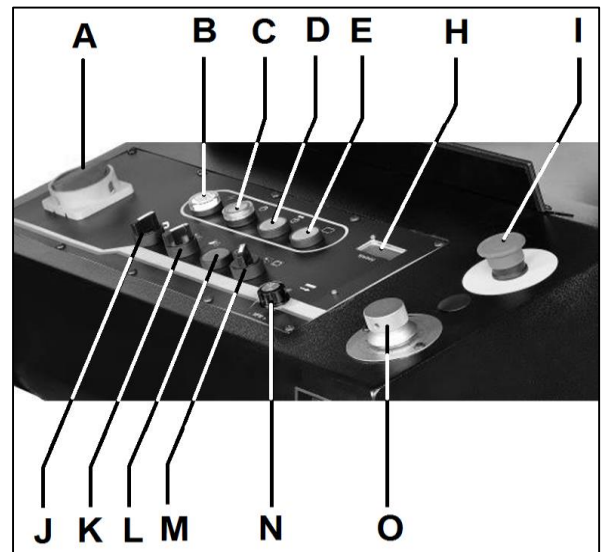

Figure 7-1: Machine Controls
- If the blade gets stuck in the cut, press the emergency stop button (I, Fig 7-1) immediately to switch off the machine. Open the vise slowly, remove the part and check that the
Rotate knob (N, Fig 7-1) to set the blade speed.
Connect the machine to power source. Turn the main switch (A, Fig 7-1) on. The power lamp (B) will be lit.
1. Press button (C) to start the hydraulic pump.